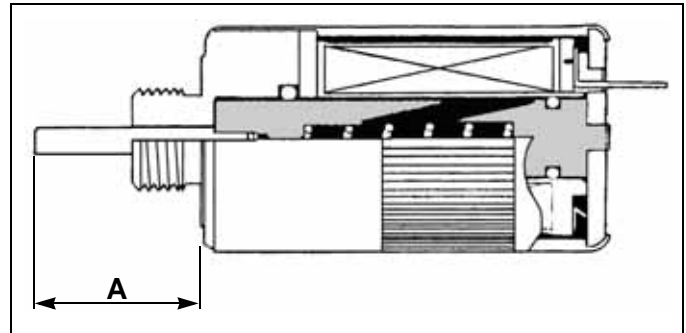

Fig. 5-3
1. Using a suitable measuring device, measure the protrusion distance, "A" (page 5-2, Fig. 5-3), on the solenoid. The distance should measure between 1.00–1.04 in.(25.5 - 26.4 mm). If the distance is not within these specifications, the solenoid is defective and needs replaced.